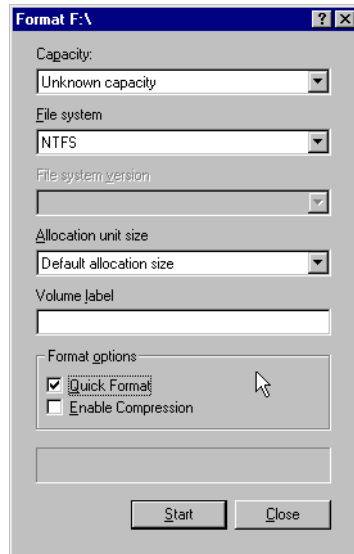

Figure 46. Windows NT Disk Format Prompt
- ii. On the Format display, enter `NTFS` for the File system, select **Quick Format** (Figure 46 on page 166). Click **Start** to format the disk.
- p. Once the server is back up, sign on as *Administrator*. Go back into the Disk Administrator, and format the volume set drive as NTFS, as displayed in Figure 46.